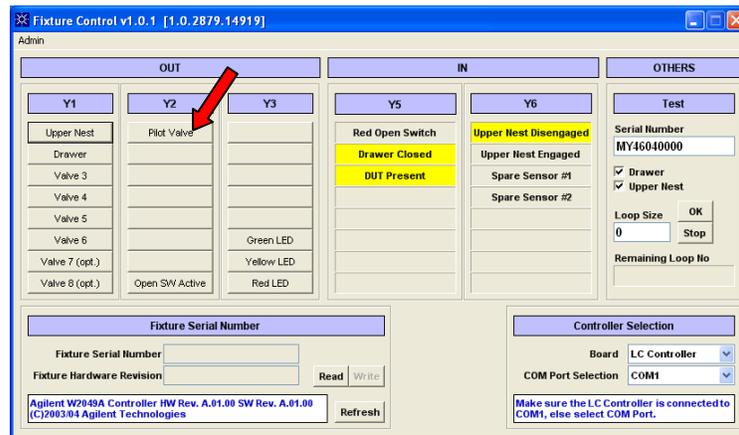

Figure 32: Clicking the Pilot Valve tab
30. After this, start supplying the air into the fixture by clicking the *Pilot Valve* tab in the UI as shown in Figure 32.